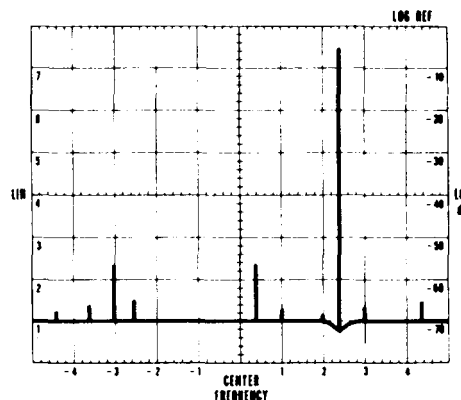
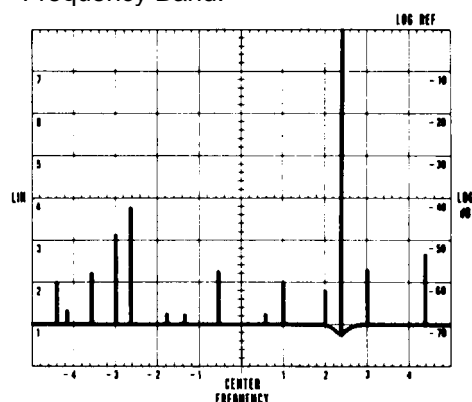

Figure 3-5a.
Figure 3-5b
- (13) Remove 50-ohm termination from SECOND LO OUTPUT and connect a cable from SECOND LO OUTPUT to RF INPUT.
- (14) Tune FREQUENCY control to position the marker under the signal between the +2 and +3 graticule lines.
- (15) Note reading on Frequency Scale. Cursor indicates 1.5 GHz.
- (16) Switch SCAN WIDTH to PER DIVISION. Center signal on display with FREQUENCY control. ERASE display to remove stored signals.
- (17) Set PERSISTENCE to MIN, SCAN WIDTH PER DIVISION to 1 MHz and SCAN TIME to 20 MILLISECONDS.
- (18) Center signal on display. Set SIGNAL IDENTIFIER to ON. Note signal shifts to the left and is reduced in amplitude on alternate sweep scans.
- (19) Set SCAN WIDTH PER DIVISION to 20 Mhz, SCAN WIDTH to FULL, INPUT ATTENUATION to 40 dB and SCAN TIME PER DIVISION to 0.2 SECONDS.
- (20) Note signal display similar to Figure 3-5a. Decrease INPUT ATTENUATION to 30 dB. Note display similar to Figure 3-5b. Note that some signal levels increased more than 10 dB. The input mixer is being overdriven (see Mixer Diode Characteristics, paragraph 3-13).
- (27) Signals shown in Figure 3-5b (mixer overdriven) are as follows: